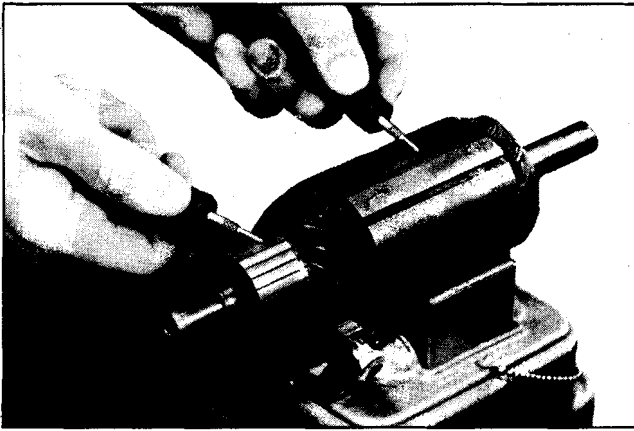

Fig. 6E-9 Testing Armature For Ground
3. Ground - Grounds in the armature can be detected by the use of a 110-volt test lamp and test probes. If the lamp lights when one test probe is placed on the commutator with the other probe on the core or shaft (Fig. 6E-7), the armature is grounded. Grounds occur as a result of insulation failure which is often brought about by overheating of the starting motor produced by excessive long cranking periods or by accumulation of brush dust between the commutator bars and the steel commutator ring.